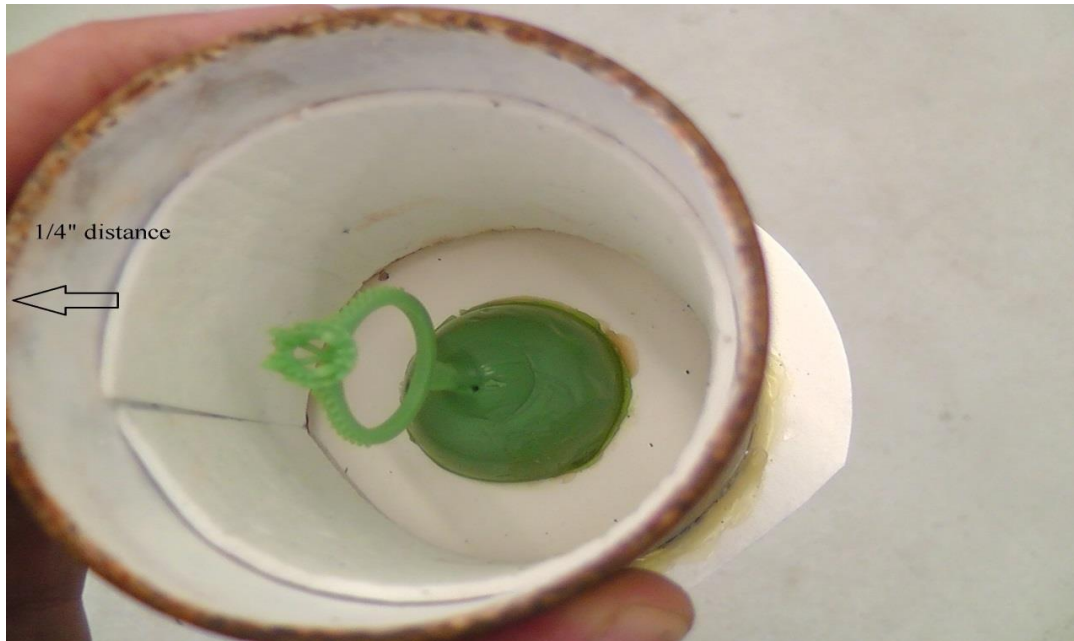

Figure 3: placing the liner paper into the metal flask
2. A 2.5"x2.5" Dia metal flask was used for this casting. Place ceramic liner paper (platinum flask liner 8"x 31" x 1/16") into the metal flask, as shown in Figure 3. Please note that there should be a 1/4" distance between each side of the paper to the top, and bottom of the metal flask.